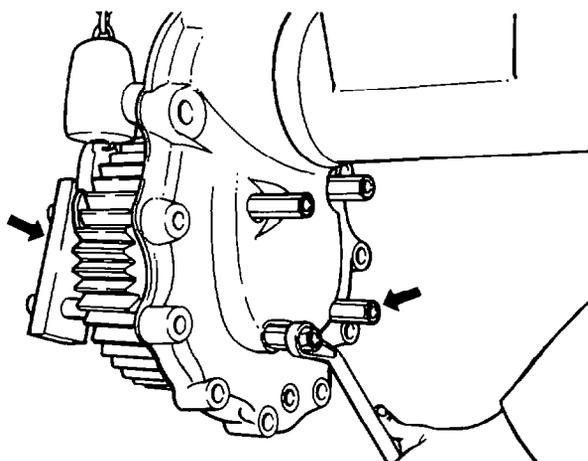

Figure 55 Fitting the Hub Gear
- c. Use Special Tool No. 10 to draw the hub gear and bearing assembly evenly into the bearing seat (see Fig 55); remove the special tool and install and tighten the retaining bolts to 40 Nm.